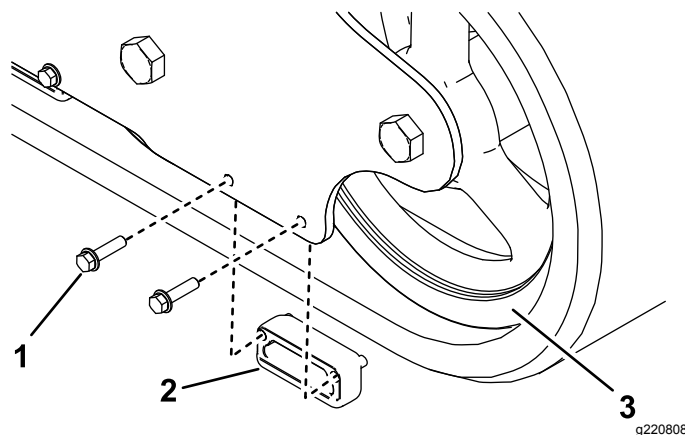

Figure 1
1. Remove the 2 existing bolts and outside, front wear block (Figure 1).